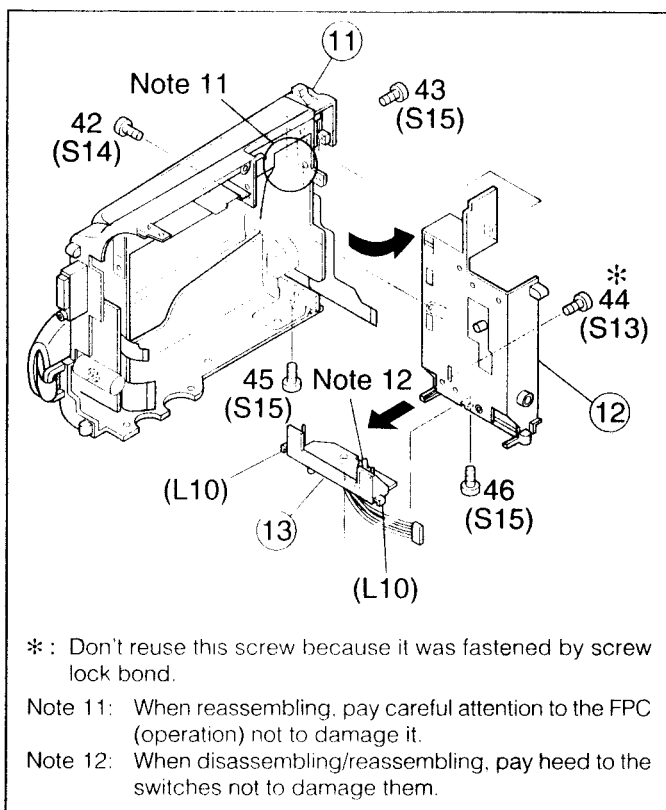

Fig. 1-3-11
1. Remove four screws (42 to 45), and then remove the rear cover assembly while sliding it in the direction of the arrow. (see Fig. 1-3-11)
2. Remove one screw (46) and then remove the battery terminal unit while sliding it in the direction of the arrow. (see Fig. 1-3-11)